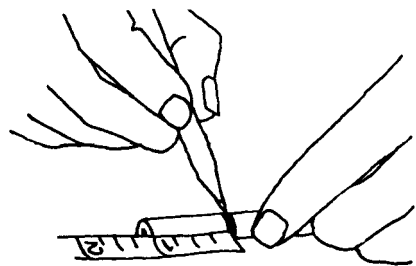

Figure 3.3.2B
- 1. Refer to Table One, Column A for specific dimensions. Mark cable from end to indicate where to cut wire shielding (See Figure 3.3.2B).